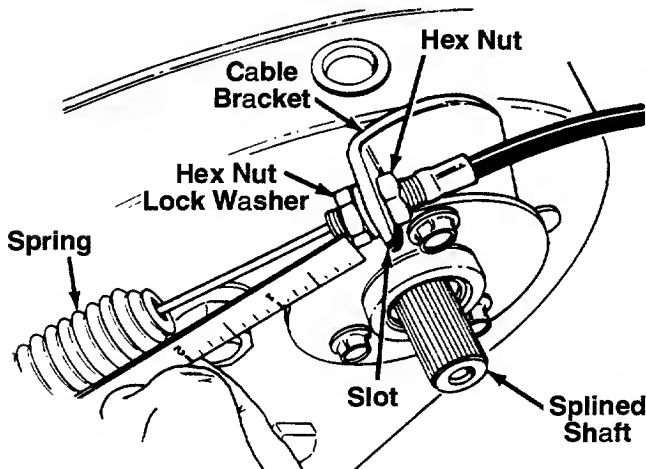

FIGURE 8.
19. There is a cable bracket which has a hole with a slot in it, located approximately 2 inches above the splined shaft. See figure 8. Pull the spring, the first nut and the lock washer all the way to the end of the cable. Slip the cable through the slot in the cable bracket, then slide the cable casing through the hole.
20. Thread the lock washer and hex nut back onto the cable casing so approximately 1/8" of threads show (only a couple threads). Thread the hex nut on the other side of the cable bracket against the bracket, and tighten securely. See figure 8.